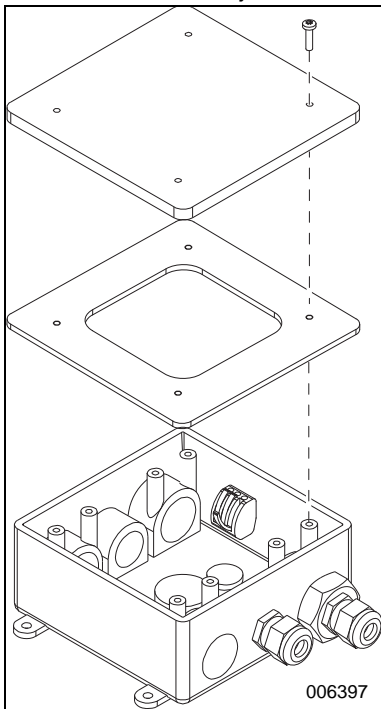

Figure 1. Junction Box Lid Removal
1. See Figure 1. Remove lid of junction box.